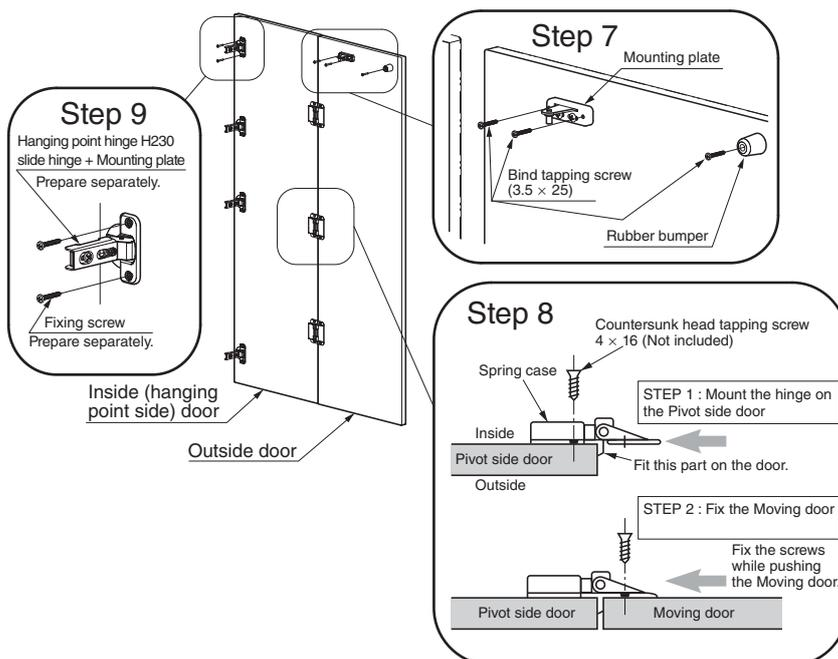

Fig. 7. Installation of mounting plate and hinges (for right-hand side)
- step7 Fix the mounting plate ④ and the rubber dumper ⑤ tightly to the specified position of the rear surface of a moving door with the bind tapping screws (3.5x25) ③ (Fig. 7).